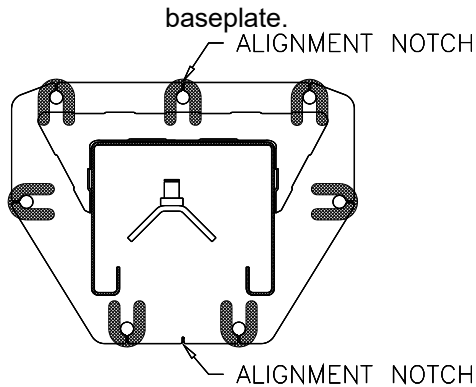

Fig. 5 – Column Shimming
- 16) Repeat steps 11 thru 13 for the two (2) anchors under each carriage.
- 17) Shim both columns to plumb using the shims provided as shown in **Fig. 5**. DO NOT shim more than 1/2" at any given point. Use a level no less than 24" in length to plumb columns.
- 20) Check idler column shimming. Use additional shims (see **Fig. 5**) to remove any gaps that may have been created while installing overhead beam. Tighten anchor bolts and recheck column for plumb. Torque to 150 foot pounds.
- 24) At the top of each column extension assemble a 3/8-16 x 3”Lg bolt with (2) 3/8-16 flange nut at each sheave location, **Fig 5**.